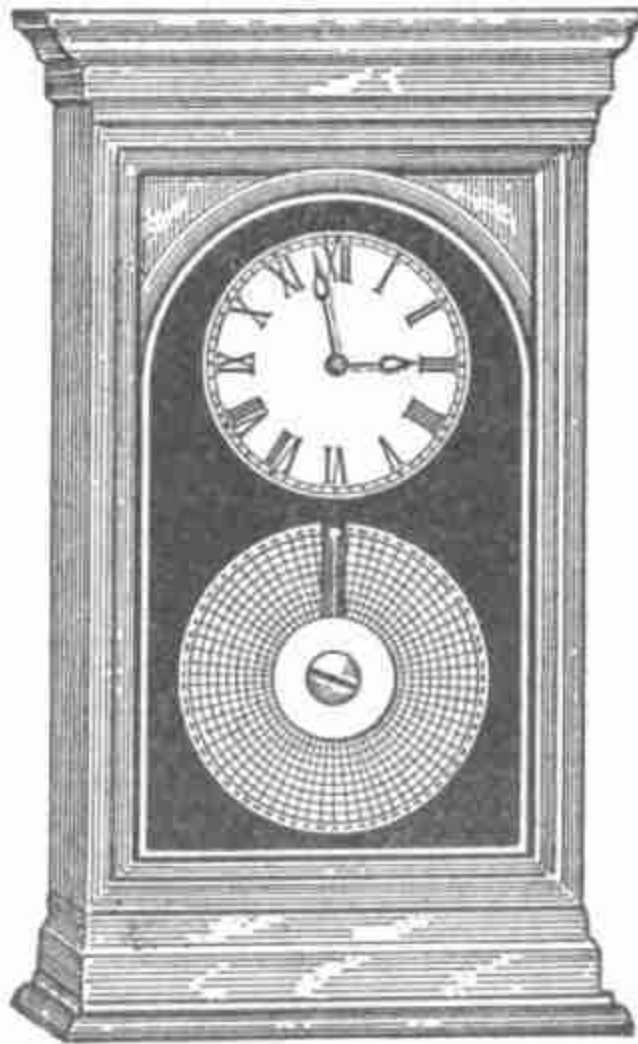

Fig. 45
15. *Watchman's Time Detector* (Fig. 45).—This is a device to compel a watchman to make his appointed trips. Push buttons or switches are distributed about the building at various points, and it is made his duty to close the circuits at these points at stated times. When he does so, the fact is recorded by electro-magnets puncturing, or, in some way, marking a revolving time card in the clock.